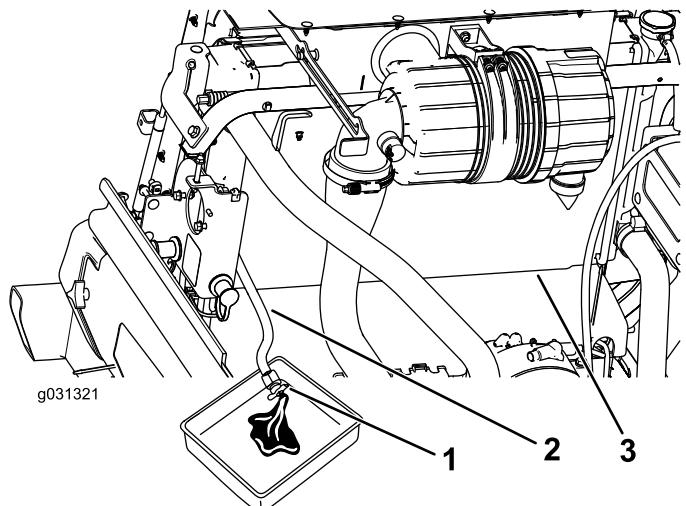

Figure 111
4. Close the valve on the radiator drain hose (Figure 111).
3. With the radiator drain hose placed in a drain pan, open the drain valve on the radiator hose and drain the fluid into a drain pan (Figure 111).